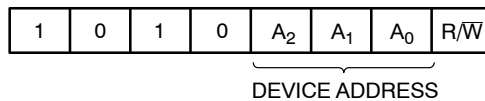

Figure 3. Slave Address Bits
The Master addresses a Slave by creating a START condition and then broadcasting an 8-bit Slave address. For the NV24C32LV, the first four bits of the Slave address are set to 1010 (Ah); the next three bits, A2, A1 and A0, must match the logic state of the similarly named input pins. The R/W bit tells the Slave whether the Master intends to read (1) or write (0) data (Figure 3).